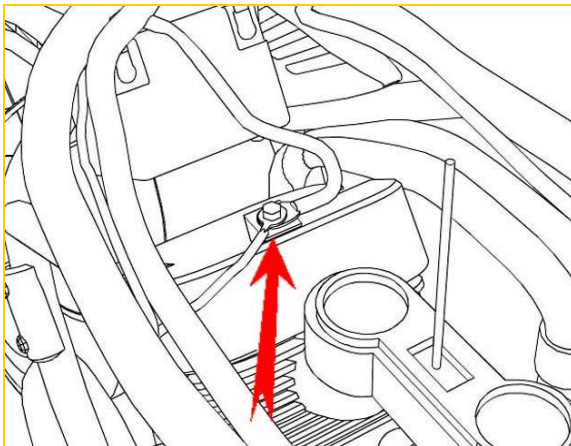

Figure 15
19. Connect the Zodiac Tfi ground wire to the battery negative cable as shown (fig 15)